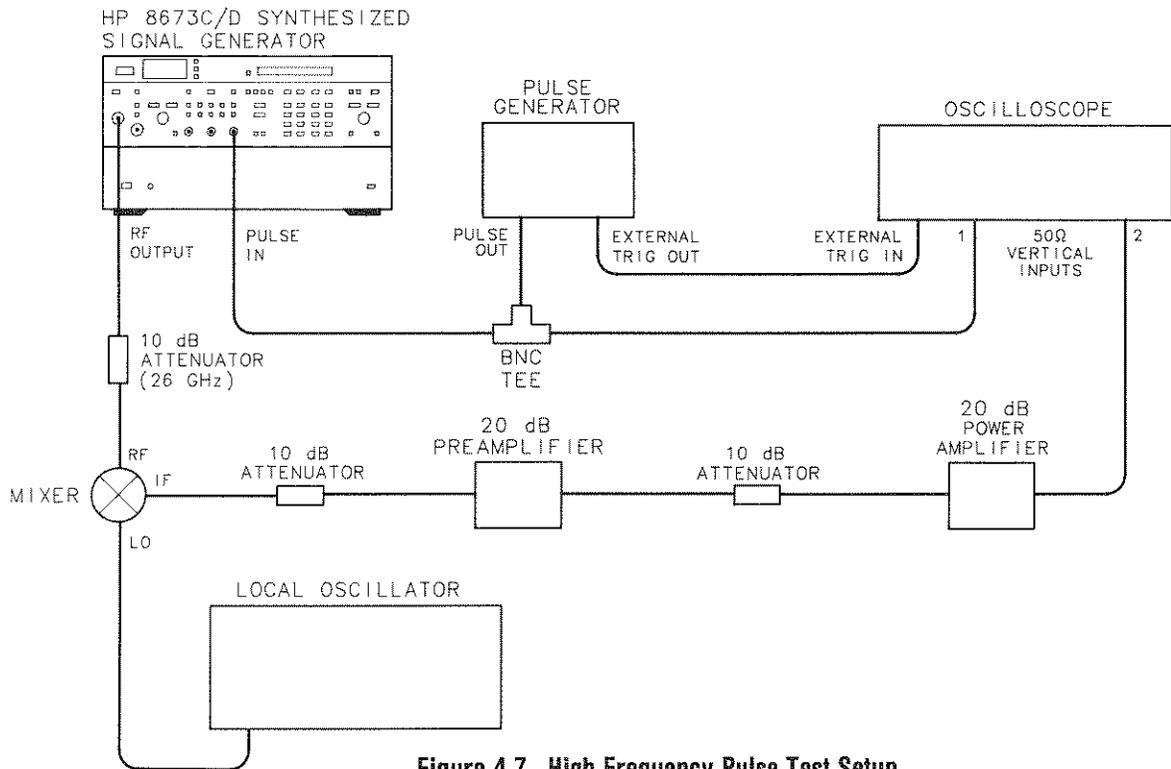

Figure 4-7. High Frequency Pulse Test Setup
15. Connect equipment as shown Figure 4-7.